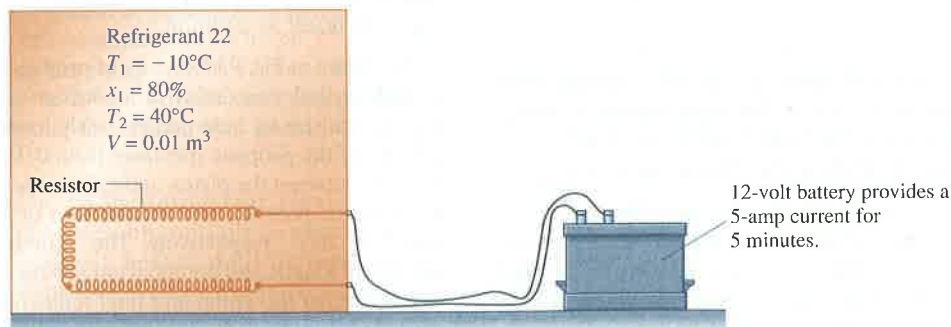

Fig. P3.64
3.64 As shown in Fig. P3.64, a closed, rigid tank fitted with a fine-wire electric resistor is filled with Refrigerant 22, initially at -10°C , a quality of 80% , and a volume of 0.01 m^3 . A 12-volt battery provides a 5-amp current to the resistor for 5 minutes. If the final temperature of the refrigerant is 40°C , determine the heat transfer, in kJ , from the refrigerant.